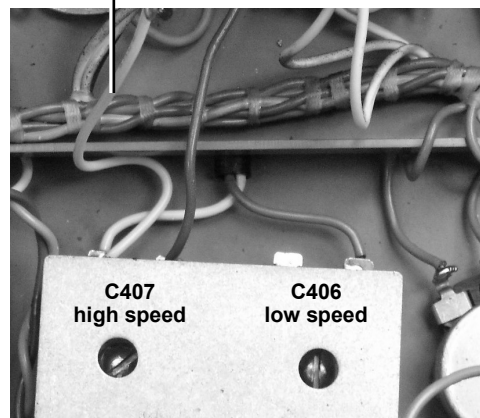

Figure 3. Flattening filter installation
- 1 Solder one end of the 68 kilohm resistor to a ground lug on octal socket V402. Solder the other end to the **unused** solder terminal on V403 along with one end of the 680 pF silvered-mica capacitor (see Figure 3).